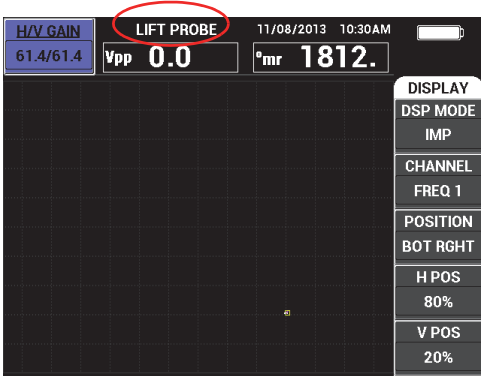

Figure 4-4 The LIFT PROBE message after holding the A-LIFT NULL key
1. Press and hold the A-LIFT NULL direct-function key () until a “beep” sound signal is heard (approximately 3 seconds) and the text “**LIFT PROBE**” is displayed on the instrument screen (see Figure 4-4 on page 79).